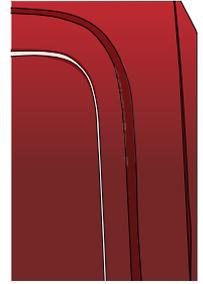

Figure 24
*TIP! In order to hide the substrate at your cut (FIG. 24), you can apply a strip of your vinyl on the concave part of the substrate where you will make the cut. Thus, when you apply the film and make the cut, the overlap of the vinyl will conceal the substrate. Cut and remove the surplus material right after application.*